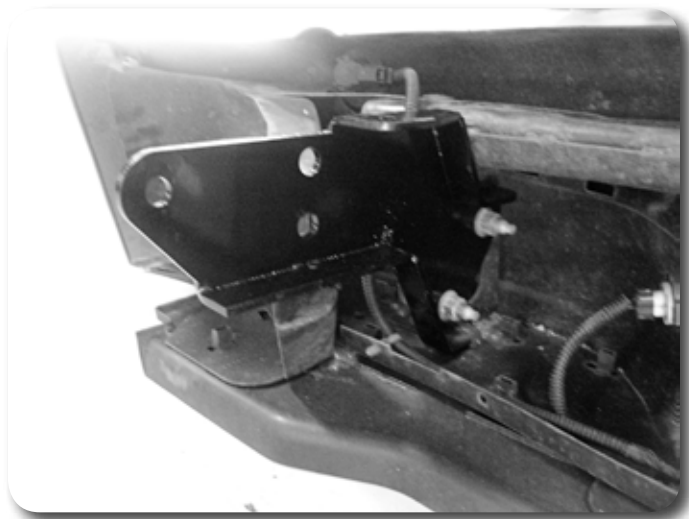

Figure 20
46. Install the new bumper brackets to the bumper in reverse of how the factory brackets were removed using the OE hardware. **Figure 20**